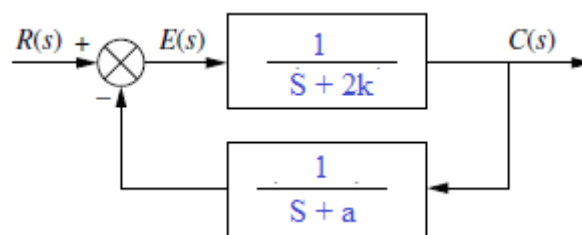

Fig. 7
- 8) Consider the closed-loop system in Fig. 7. Determine values of the parameters  $k$  and  $a$  so that the following specifications are satisfied: